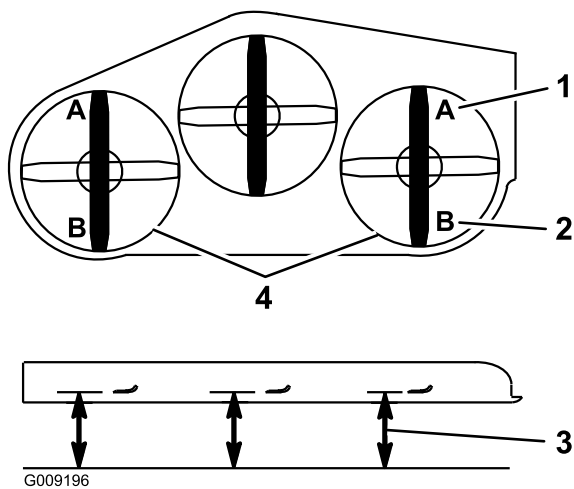

Figure 90
9. On both sides of the deck, measure from the level surface to the front tip of the blade (Position A) as shown in Figure 90.
16. On both sides of the deck, measure from the level surface to the back tip of the blade (position B) as shown in Figure 90.